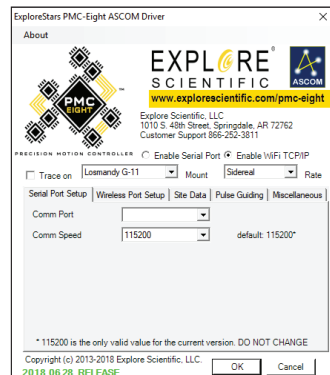

Figure 2. Explore Scientific PMC-Eight™ ASCOM configuration window.
19. Push the "Properties" button and display the PMC-Eight ASCOM Driver Configuration window. (Figure 2.)